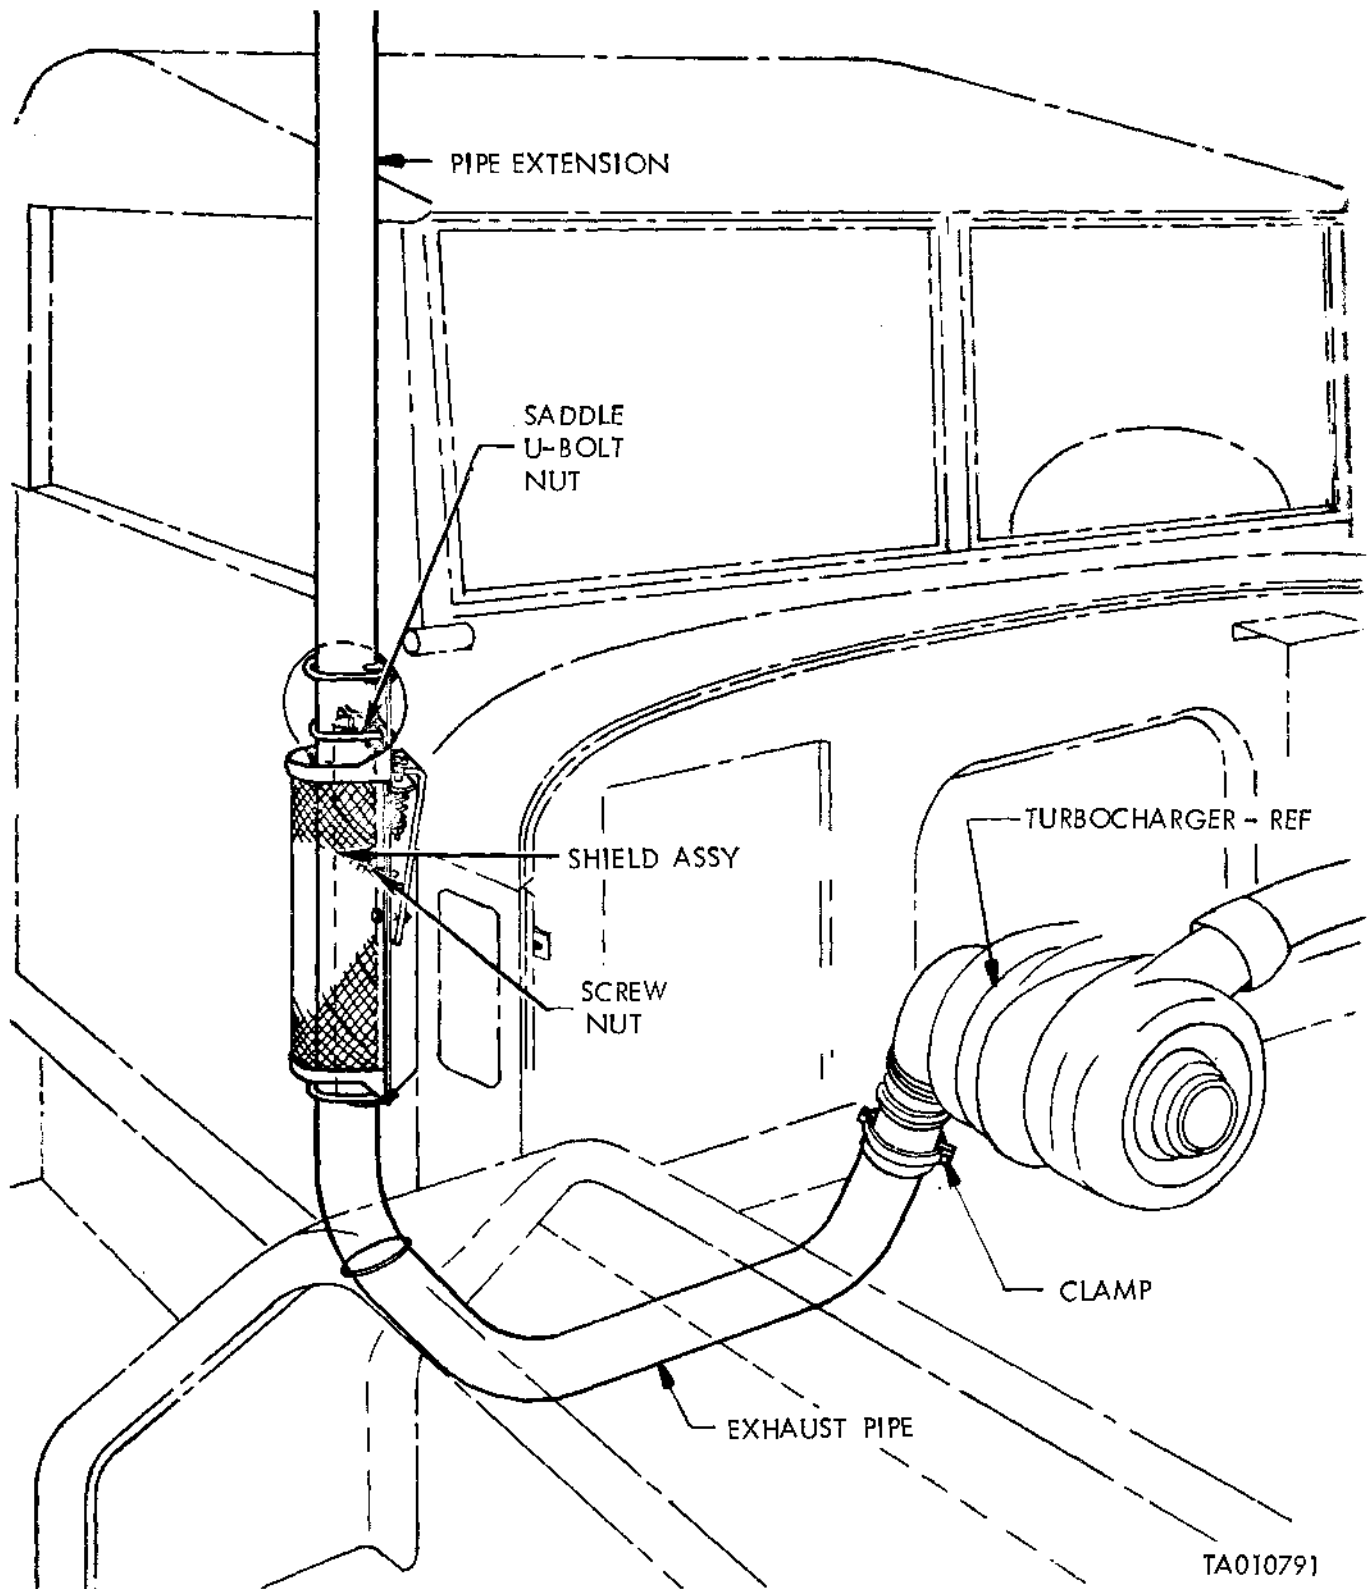

Figure 2-122.1. Vertical Exhaust Stack—Diesel Models.
a. *Removal* (fig. 2-122.1). Refer to paragraph 2-107 a for a similar procedure.